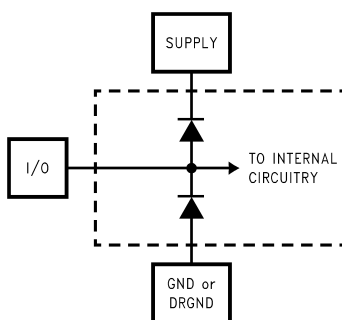

Figure 2.
- (1) The inputs are protected as shown below. Input voltage magnitudes above V_A or below GND will not damage this device, provided current is limited, see Note 4 in the Absolute Maximum Ratings table. However, errors in the A/D conversion can occur if the input goes above V_A or below GND by more than 100 mV. As an example, if V_A is 4.75V, the full-scale input voltage must be ≤4.85V to ensure accurate conversions (see Figure 2).
- (2) To guarantee accuracy, it is required that $|V_A - V_D| \leq 100$ mV and separate bypass capacitors are used at each power supply pin.
- (3) Typical figures are at $T_A = T_J = 25^\circ\text{C}$, and represent most likely parametric norms. Test limits are guaranteed to AOQL (Average Outgoing Quality Level).
- (4) Integral Non Linearity is defined as the deviation of the analog value, expressed in LSBs, from the straight line that passes through positive and negative full-scale.
- The inputs are protected as shown below. Input voltage magnitudes above V_A or below GND will not damage this device, provided current is limited, see Note 4 in the Absolute Maximum Ratings table. However, errors in the A/D conversion can occur if the input goes above V_A or below GND by more than 100 mV. As an example, if V_A is 4.75V, the full-scale input voltage must be $\leq 4.85V$ to ensure accurate conversions (see Figure 2).
- (1) The inputs are protected as shown below. Input voltage magnitudes above V_A or below GND will not damage this device, provided current is limited, see Note 4 in the Absolute Maximum Ratings table. However, errors in the A/D conversion can occur if the input goes above V_A or below GND by more than 100 mV. As an example, if V_A is 4.75V, the full-scale input voltage must be $\leq 4.85V$ to ensure accurate conversions (see Figure 2).
- (2) To guarantee accuracy, it is required that $|V_A - V_D| \leq 100\text{ mV}$ and separate bypass capacitors are used at each power supply pin.
- (3) With the test condition for $V_{REF} = +2.0V$ (4V_{P-P} differential input), the 12-bit LSB is 977 μV .
- (4) Timing specifications are tested at TTL logic levels, $V_{IL} = 0.4V$ for a falling edge and $V_{IH} = 2.4V$ for a rising edge.
- (5) Typical figures are at $T_A = T_J = 25^\circ C$, and represent most likely parametric norms. Test limits are guaranteed to AOQL (Average Outgoing Quality Level).